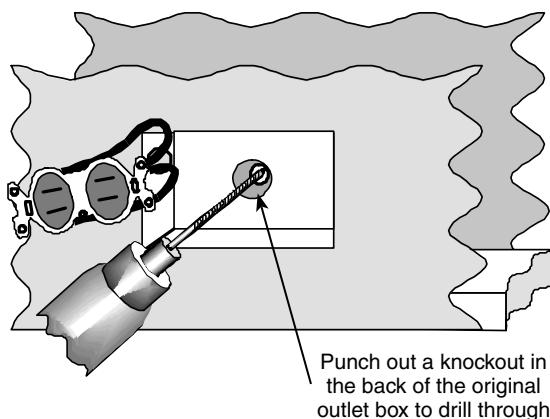

Figure 8-2
- If that doesn't work, there's another way to find the outlet box. Pull the outlet down enough to punch out one of the knockouts on the back; see Figure 8-2.